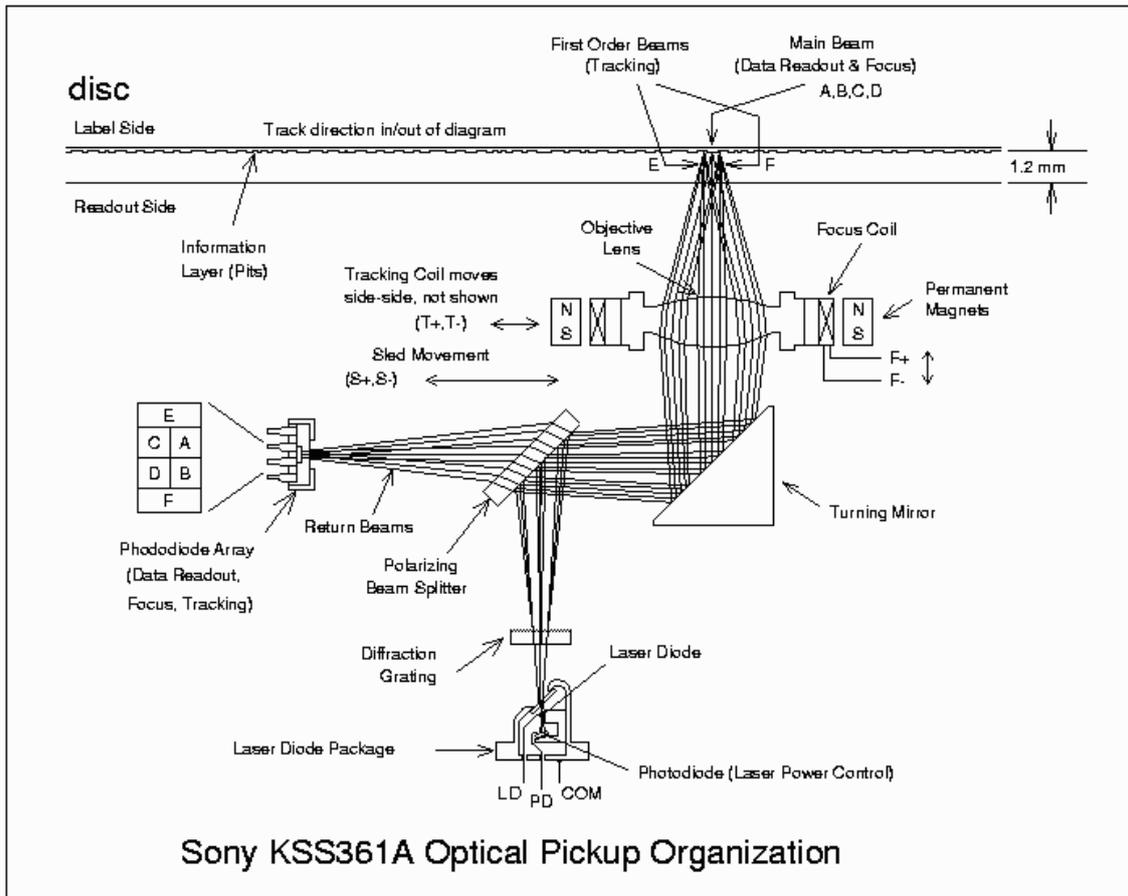

Figure 1 – A simple pickup design.
2. Design the pickup (Fig. 1) in MacroSim